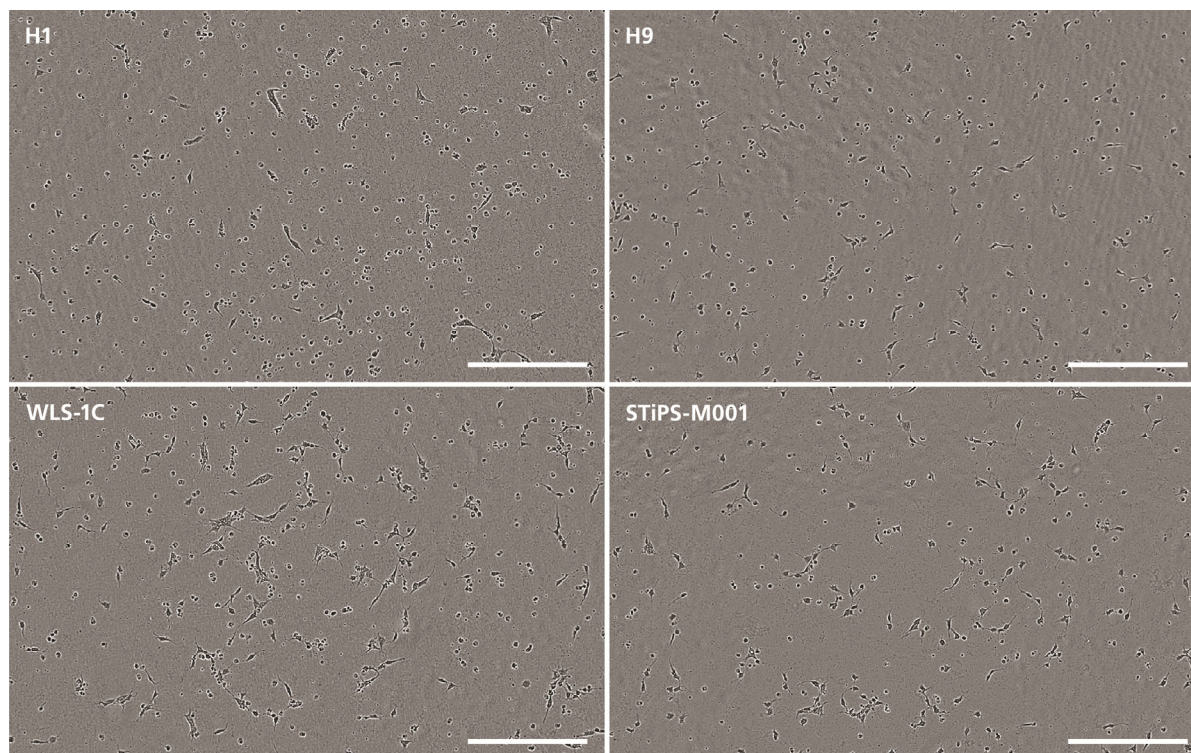

Figure 1. Single Cells After Seeding hPSCs (Day -2)
13. Transfer the plate and incubate at 37°C and 5% CO₂ with 95% humidity overnight. See Figure 1 for representative images.